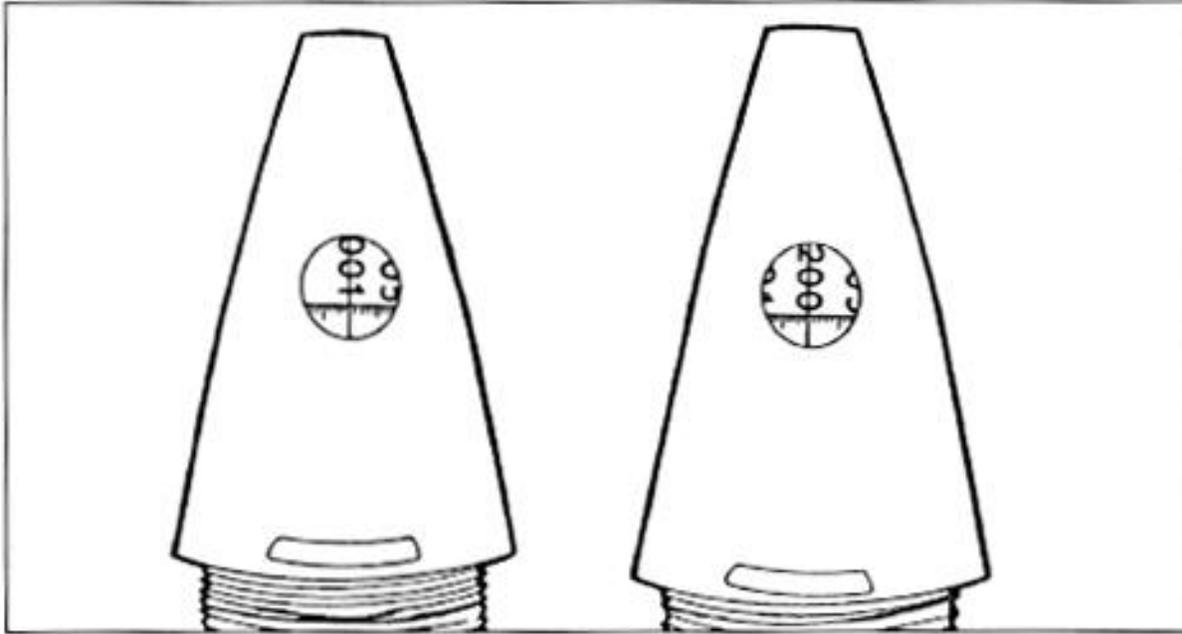

Figure 3-25. Start time setting and maximum time setting of fuze M577 or M582
(2) **Setting for time airburst up to 200 seconds.** Rotate the M35 fuze setter counterclockwise approximately one-half turn to remove the shipping/storage and impact settings, as well as the black triangle. The black triangle indicates a nontime setting. Continue rotating counterclockwise past the zero (000) until the desired time setting is reached. Each complete turn of the fuze setter moves the dials 10 seconds. Turning the fuze setter 20 complete turns moves the dials from 000 to 200 (Figure 3-25). The dials cannot go beyond the 200 setting. To set the fuze back to a lower time, for impact, or to the shipping setting, you must turn the fuze setter clockwise. **DO NOT TRY TO TURN THE FUZE SETTER BEYOND THE MECHANICAL STOPS AFTER 200 APPEARS ON THE DIALS IN THE WINDOW OR SET THE FUZE BELOW THE SHIPPING SETTING OF 95.5 TO 93.0 (e., below).** While reading the setting, apply slight torque to remove backlash.